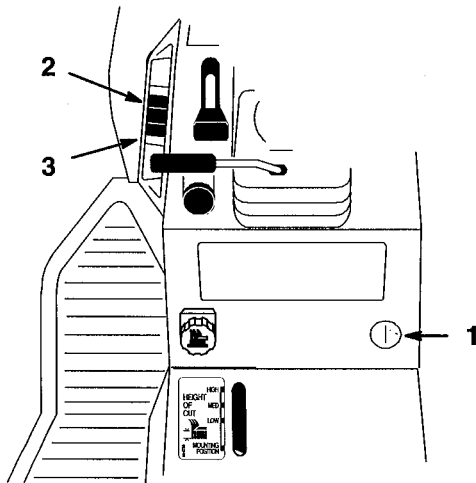

Figure 19
The attachment power lift (optional on some models) (Fig. 19) is used to raise and lower attachments.
1. Turn key to the “ON” or “RUN” position (Fig. 19).
2. Push the lift switch in the “UP” direction to raise the attachment lift (Fig. 19). This will lift and hold the attachment in the up, or raised position.
2. Push the lift switch in the “DOWN” direction to lower the attachment lift (Fig. 19). This will lower the attachment lift.